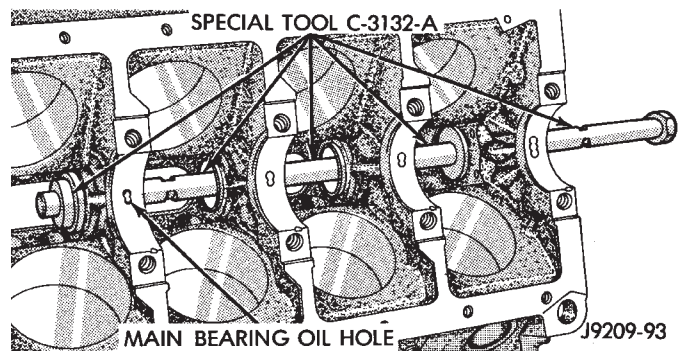

Fig. 31 Camshaft Bearings Removal/Installation with Tool C-3132-A
(1) With engine completely disassembled, drive out rear cam bearing core hole plug.
(2) Install proper size adapters and horseshoe washers (part of Camshaft Bearing Remover/Installer Tool C-3132-A) at back of each bearing shell. Drive out bearing shells (Fig. 31).